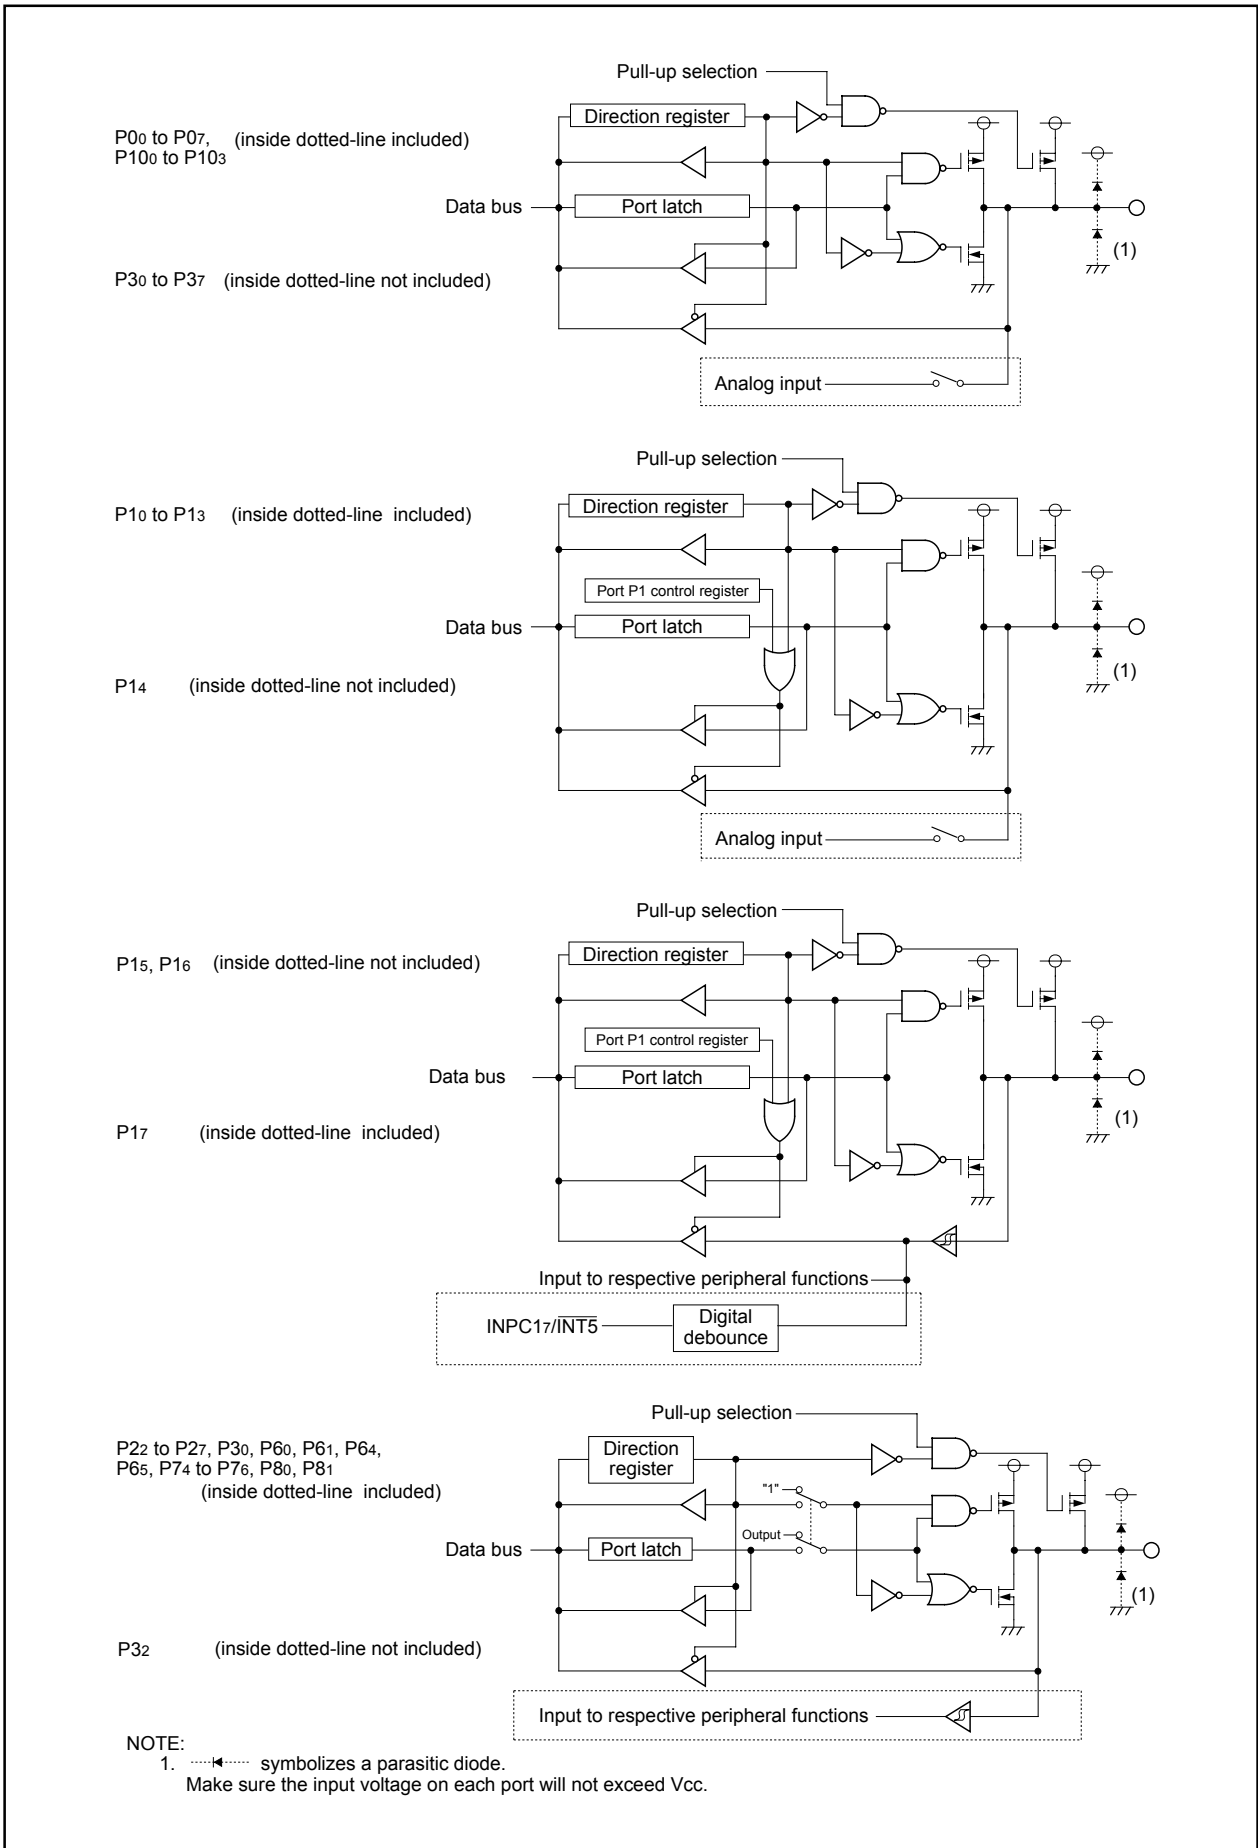
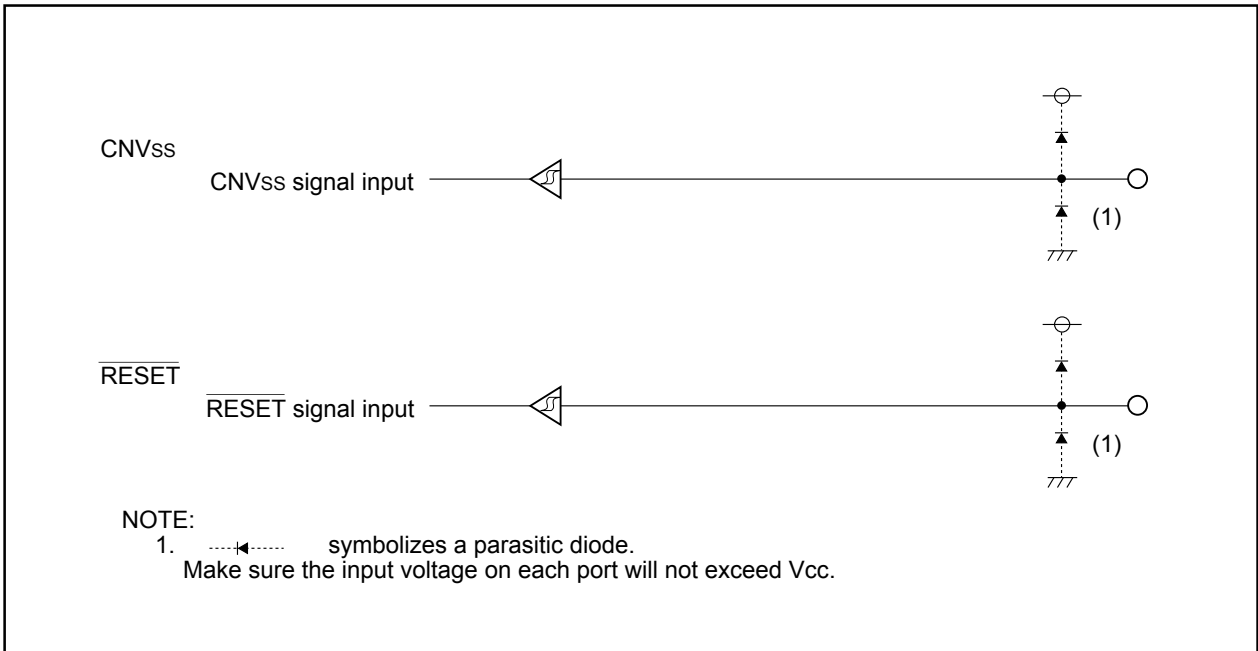

Figure 19.1 I/O Ports (1)
Figure 19.5 I/O Pins
**Figures 19.1 to 19.4** show the I/O ports. **Figure 19.5** shows the I/O pins.